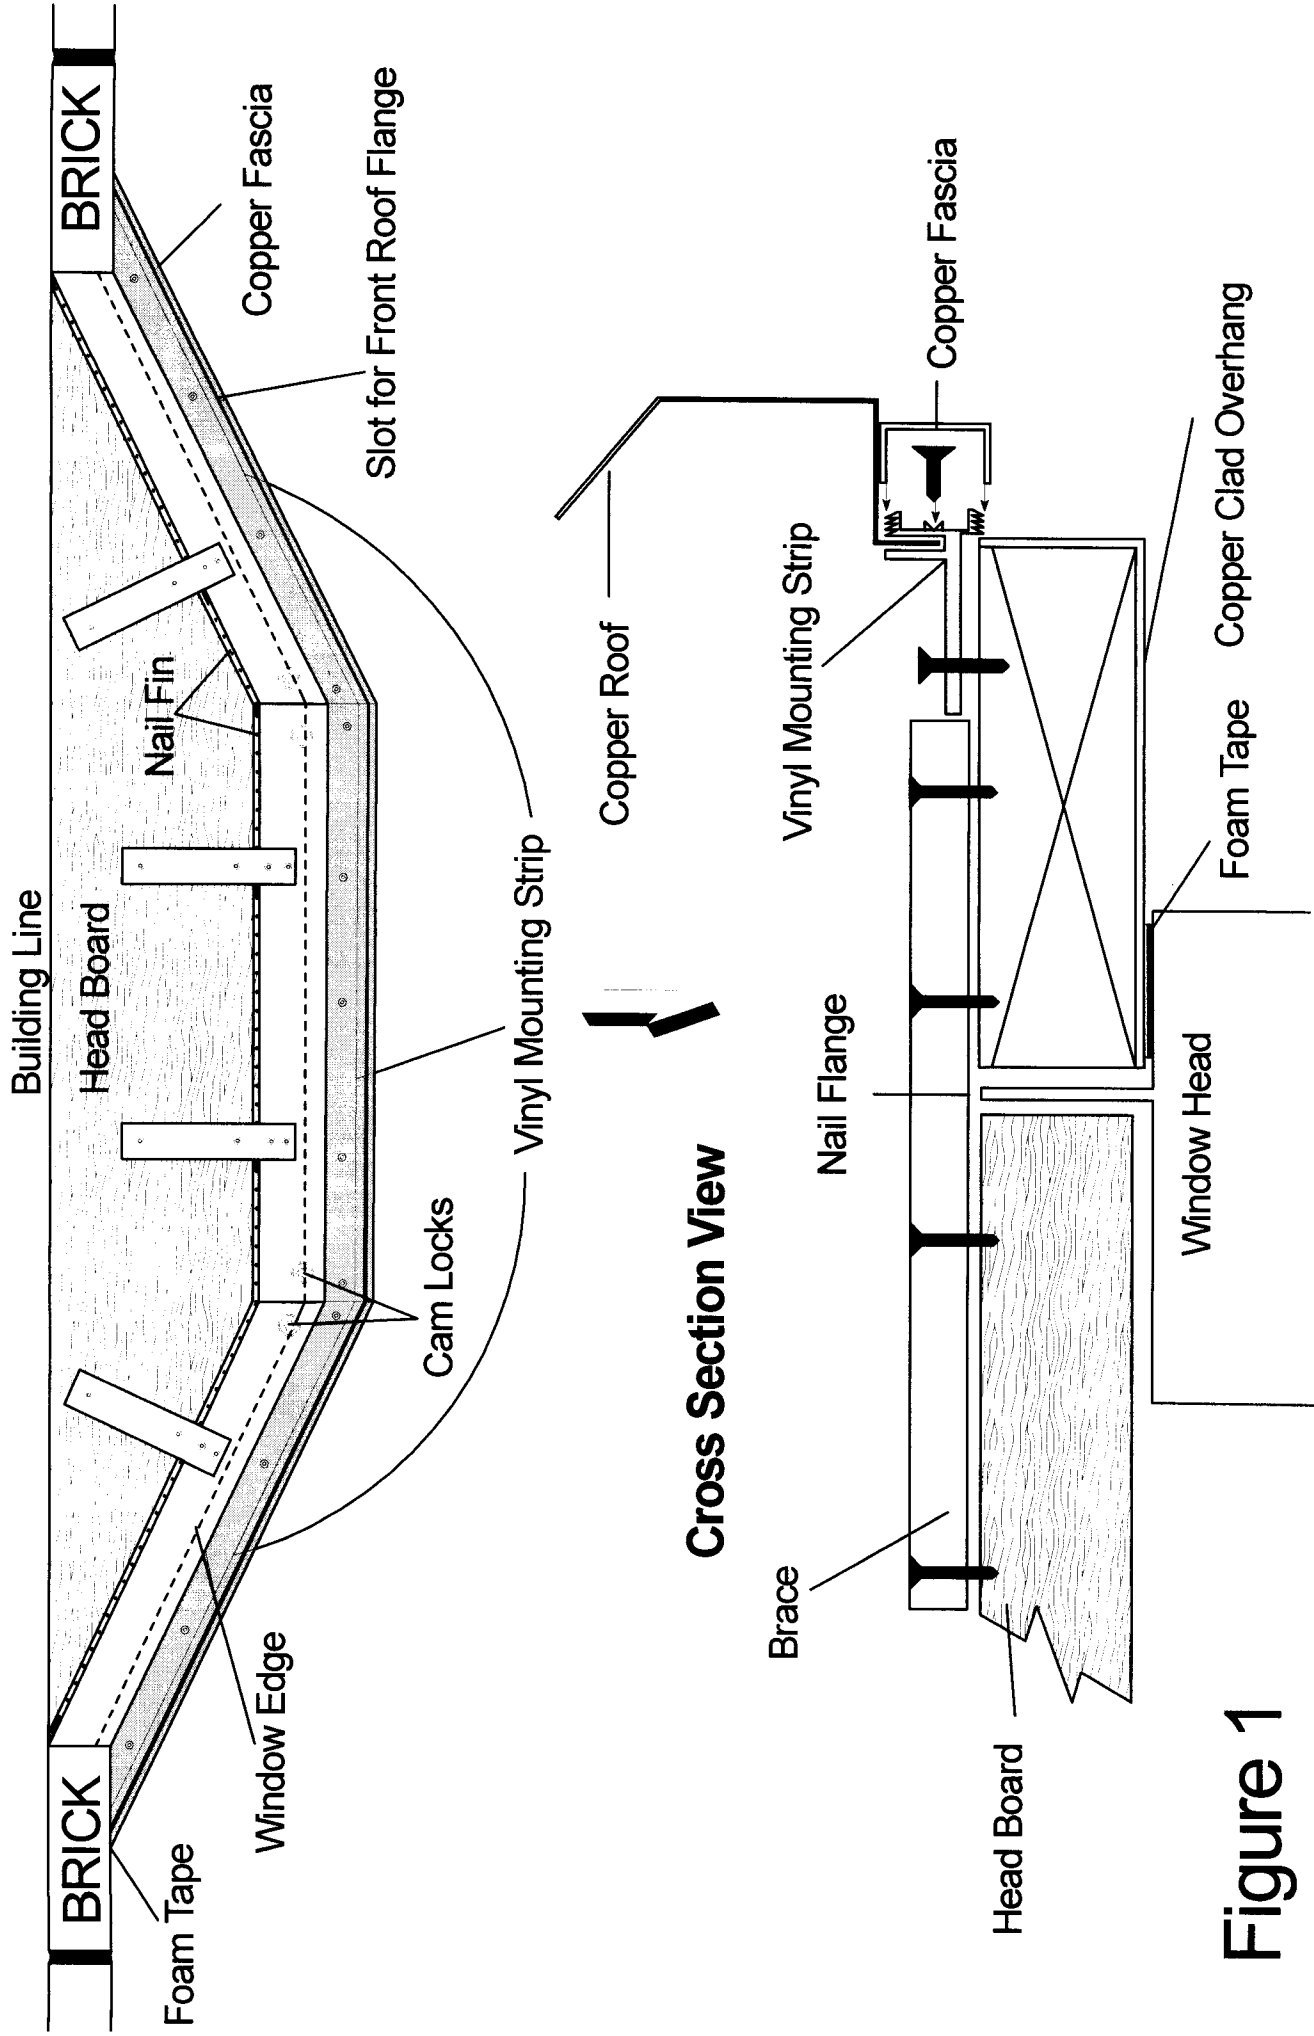

Figure 1
- 3. INSTALL THE INSULATING STRIP:** Included in the kit is a roll of peel-and-stick closed-cell vinyl insulating tape. Mount this tape on the outside perimeter of the window top, flush with the outer edge [see **FIGURE 1**].
- 5. TEST FIT THE SOFFIT:** Place the assembled soffit on top of the bay or bow window, with the clad side down. The soffit should fit snugly in front of the head-board. The notches in the flanker pieces should fit snugly up against the face of the brick on either side of the window [see **FIGURE 1**].
The kit is pre-set to fit brickwork applications where the depth of the brickwork (face of brick back to face of sheathing) is exactly 4 ¼". When the brickwork allowance is 4 ¼", the soffit extends back from the window edge towards the headboard for about one inch [see **FIGURE 1**].
On deeper brickwork, the soffit will overlap the window by less than that amount. The amount of overlap necessary for a proper installation varies from one window to another. There should be enough solid window frame under the overlap to take a screw tightly in Step 7 [see **FIGURE 1**].
Pre-drill the screw holes, and attach the soffit to the headboard with the braces provided. Use only **ONE** screw at each end of each brace at this time. If the headboard and the soffit are not level with each other, the lower of the two pieces will have to be shimmed so that the braces are horizontal and snug [see **FIGURE 1**].
Make any final adjustments to the positioning of the soffit, and then attach each brace to the soffit and headboard with the remaining two screws. Finally, carefully pre-drill the soffit into the window frame and screw the two together [see **FIGURE 1**].